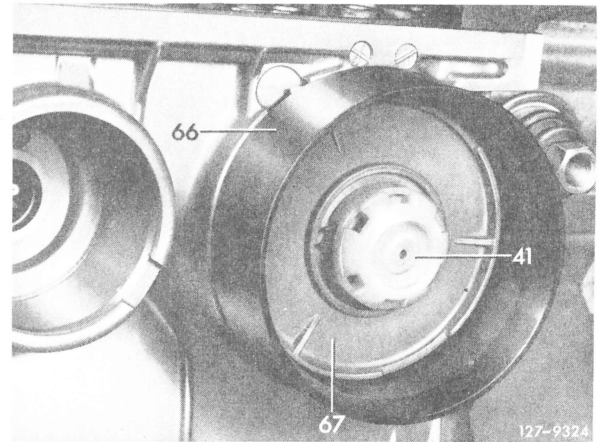

Fig. 61
**88** Visually check oil sealing ring and bypass valve (41) for brake band piston B 2 (Fig. 61).
Introduce brake band piston B 2 (67) with introducing ring (66) into transmission case and watch out for correct seat of thrust pin in bore of brake band B 2 (Fig. 61).